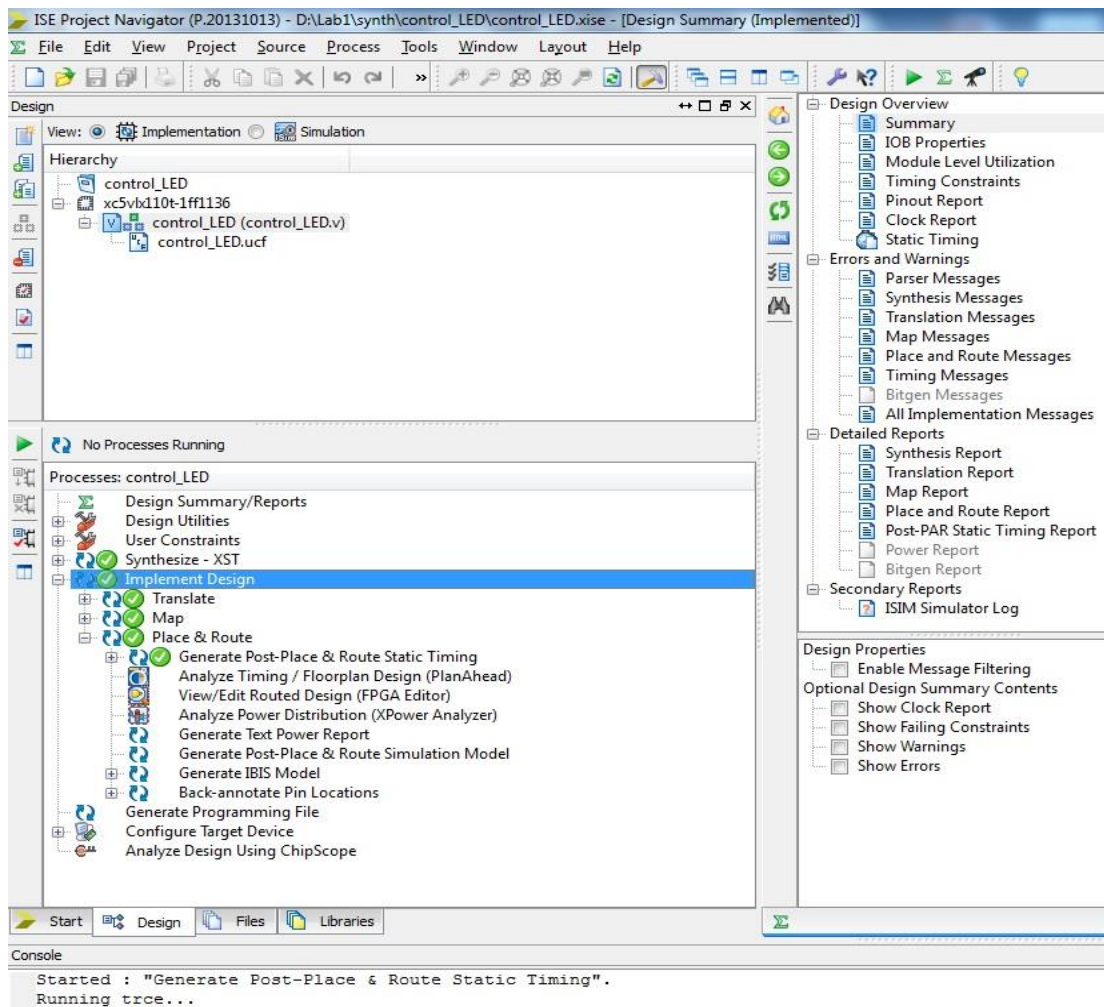

Fig.7: Implemented Design
34. Double click on **Implement**. Your design will now be implemented on the target FPGA. You should see something similar to Fig. 7 on the left of your screen. On the right side of your screen, you will see Fig. 8 which shows design related data.
40. Go back to **Implementation** view and double click on **Generate Programming File** in Fig.7. (You have now successfully generated the bit-stream to program your FPGA. Go back to *synth* directory to see if a *control_LED.bit* file exists or not. This file is the bit-stream file. You are now ready to program your FPGA)